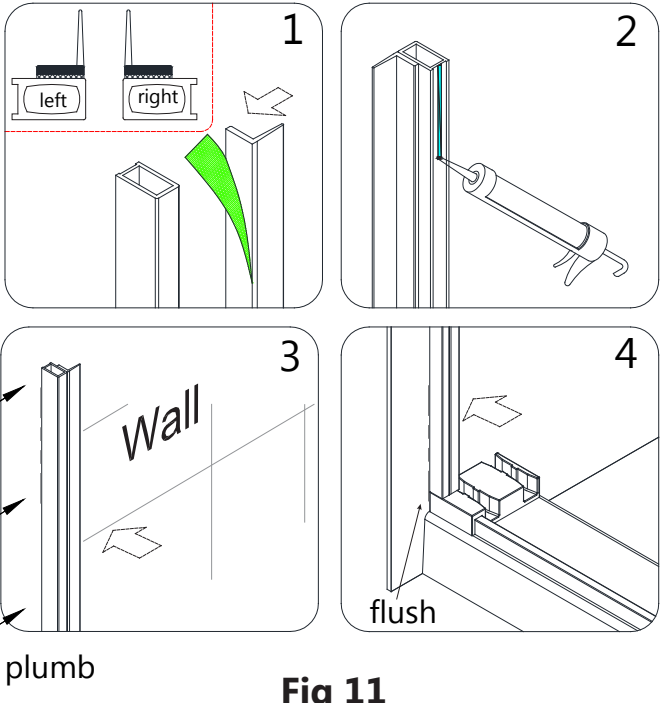

Fig 11
11. Remove the paper backing from the **Anti-Water Side Strips (#07)**. Attach the **Anti-Water Side Strips (#07)** to the **Wall Profiles (#06)** as shown in Fig 11.1. Apply silicone along the entire length of the **Wall Profiles (#06)**. (Fig 11.2) Position the **Wall Profiles (#06)** on the wall, flush with the marks made in the previous step. **It is important that the wall profiles are plumb and inline with the bottom guide block** (Fig 11.4). **(Fig 11)**